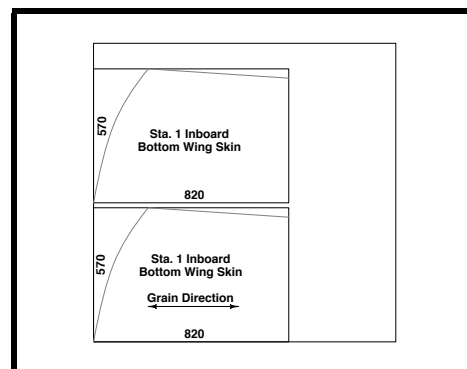

Figure 48
- ❑ Use one 50"x50" sheet of 2mm birch plywood and cut in accordance with Figure 48.